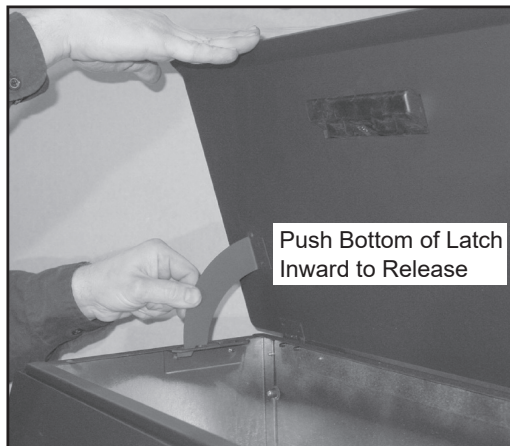

Figure 11.2
3. To close the hopper lid, while holding lid open with one hand, push the bottom of the latch inwards to release from locked position and then slowly close the hopper lid (**Figure 11.2**).
2. Connect your thermostat wire to the W and R terminals (**see Figure 11.2 on page 11**)